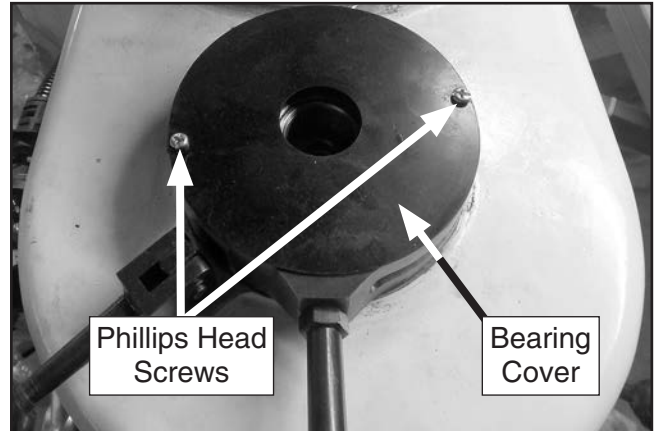

Figure 91. Location of G0796 bearing cover and Phillips head screws removed during belt/brake shoe replacement procedure.
5. Remove (2) Phillips head screws shown in **Figure 91**, then remove bearing cover from top of headstock.